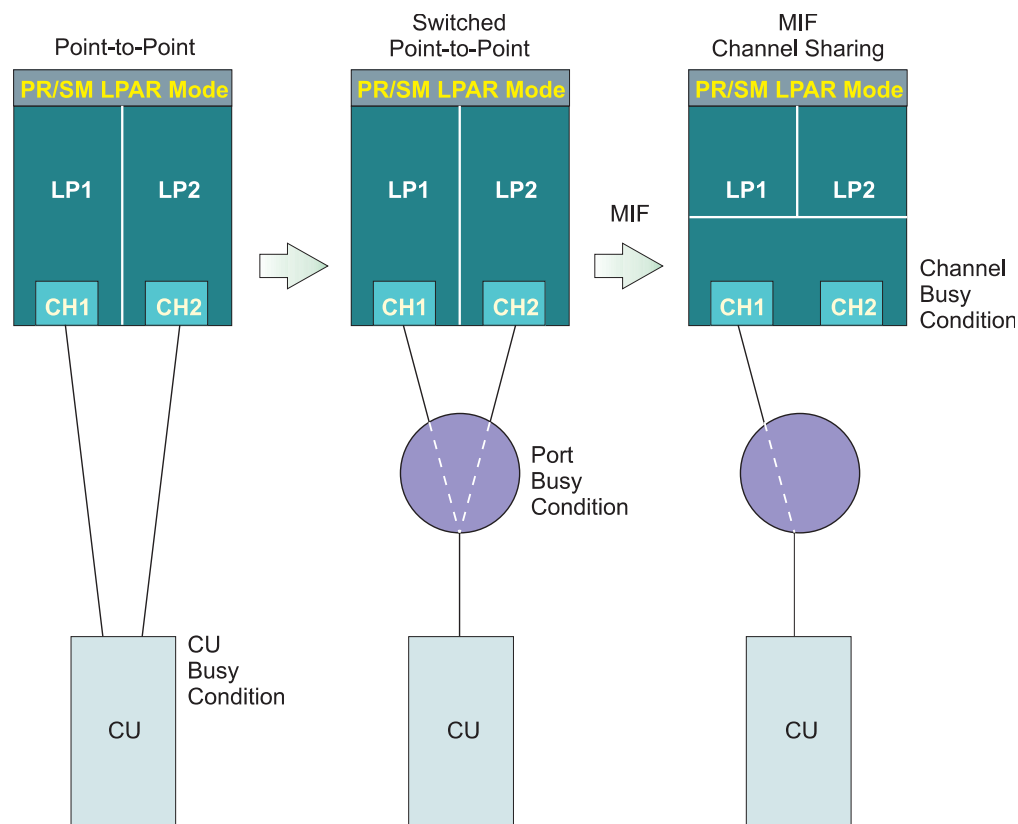

Figure 12. Progression of busy condition management improvements
**Understanding and using I/O-busy management enhancements:** This section shows how the various FICON and MIF topologies offer improvements in managing I/O-busy conditions. Figure 12 compares the point-to-point, switched point-to-point, and MIF channel sharing topologies.